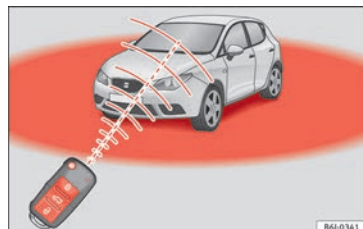

Fig. 115 Range of the radio frequency remote control.
• The radio frequency remote control key functions only when you are within range **Fig. 115**.